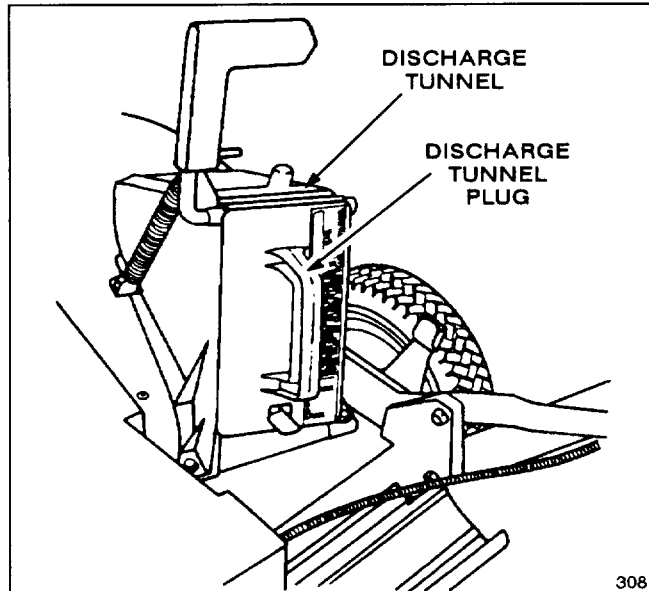

Figure 23
1. **Rear Bagging Kit, Model No. 59174**—Install discharge tunnel and rear mounting grass bag to convert Recycler® mower to a rear bagging mower (Fig. 23). Includes discharge tunnel plug.